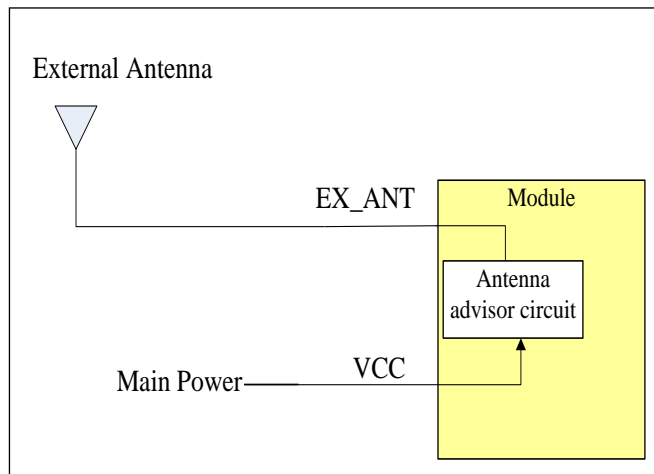

Figure Mode 3 (Built-in Antenna Supervisor)
- Mode3 (**ex. Not Definition**), the power supply comes from VCC. The circuit also auto switch RF signal from internal Patch Antenna to External Antenna when connect an External Antenna. See Figure Mode 3.